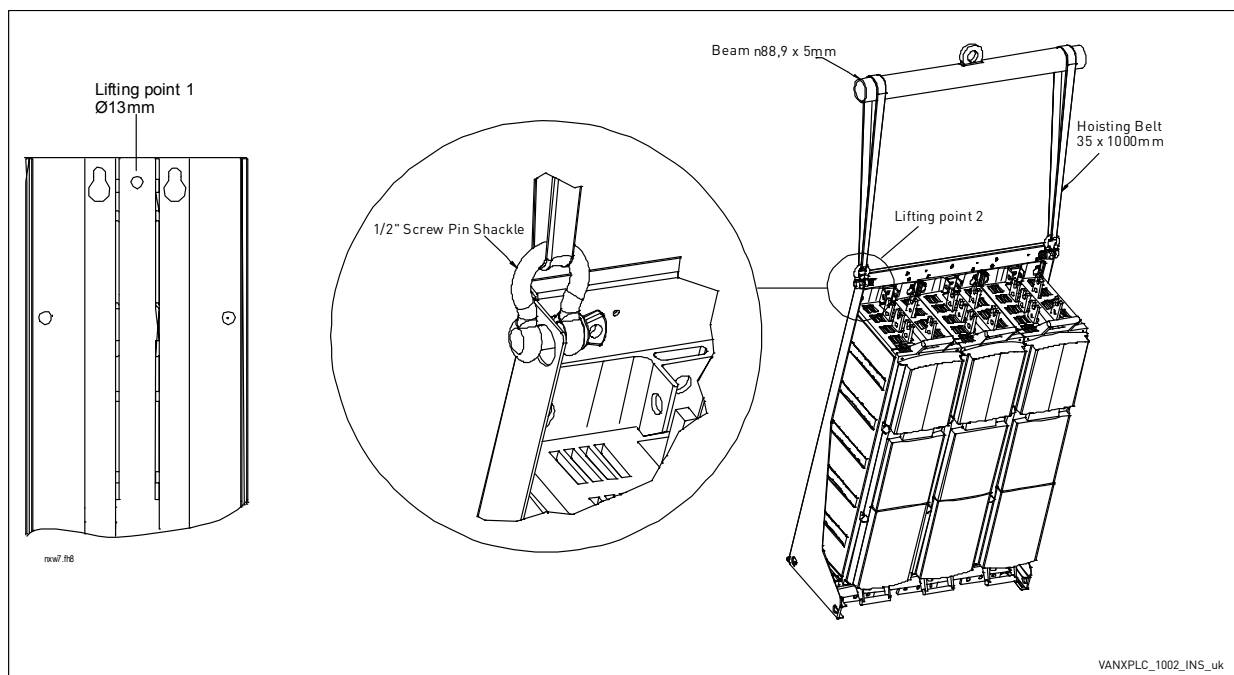
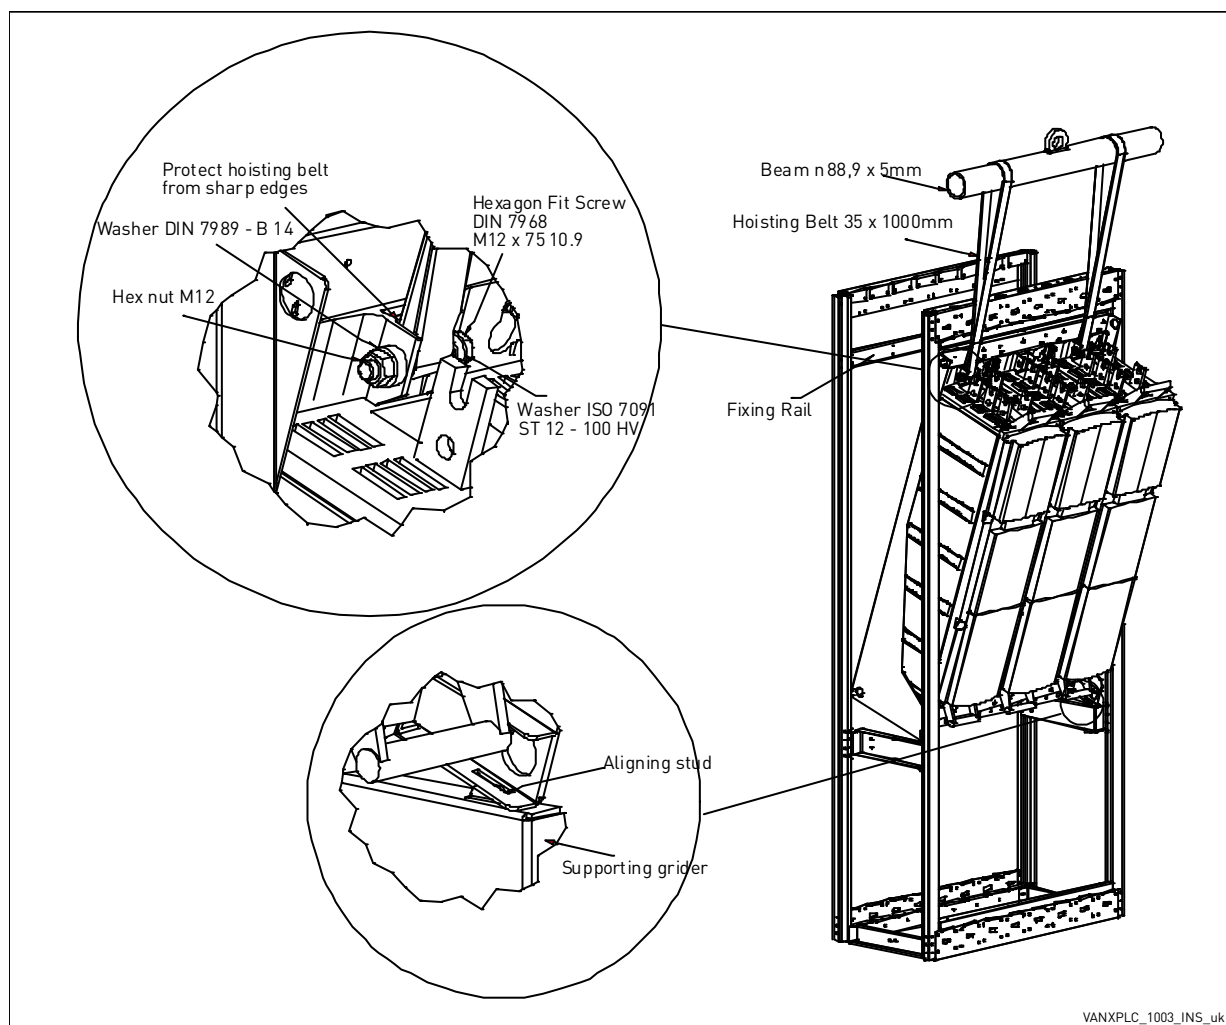
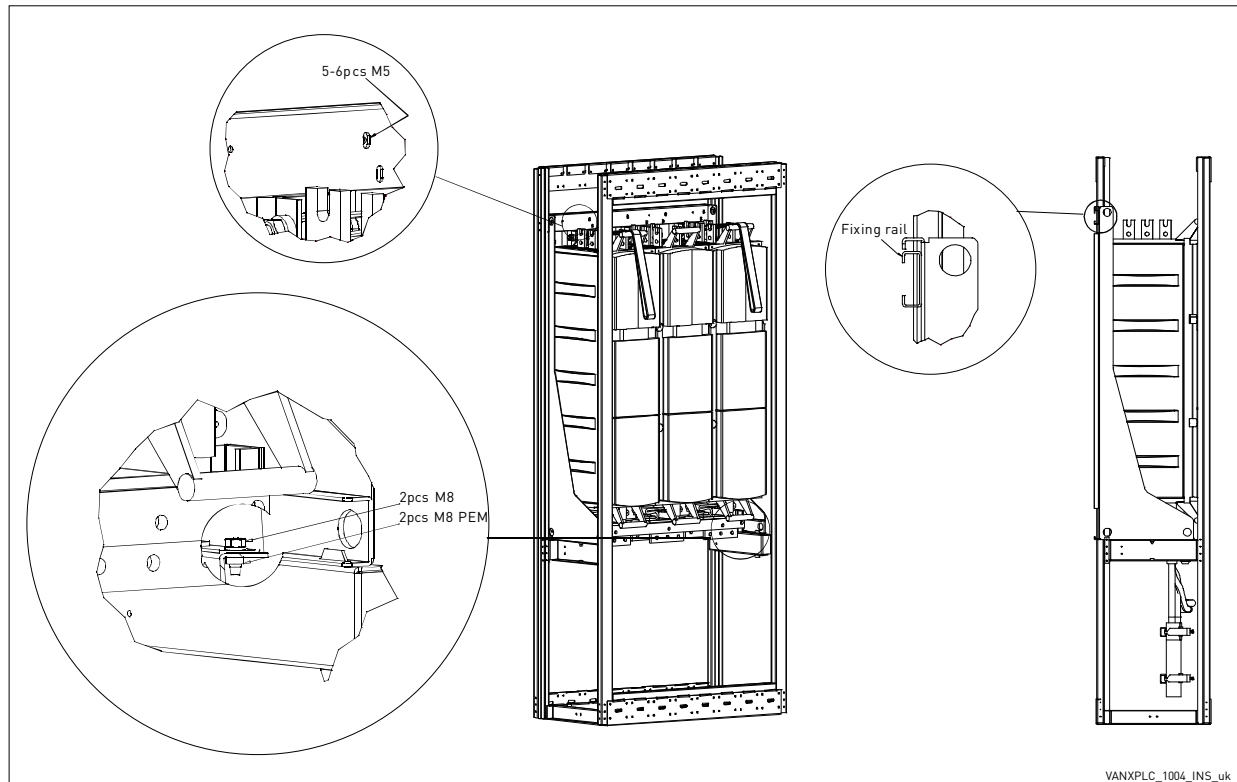

Figure 3. Lifting points for drives consisting of one module (left) and several modules
Figure 4. Lifting of drive into a narrow mounting space
Figure 5. Securing the drive to the cabinet frame
For units with no mounting bracket (see Chapter 5.1.2.2), the best place for hoisting is the hole(s) in the middle of the mounting plate (Lifting point 1). Vacon NX Liquid-Cooled drives consisting of several modules can the most safely and easily be lifted by the holes in the mounting bracket (Lifting point 2) using a screw pin shackle. Pay also attention to the recommended dimensions of the hoisting belt and the beam. See Figure 3.
In such case, follow the lifting procedure described in Figure 4. The mounting becomes easier and safer if the drive can be laid on a *supporting girder* fixed on the cabinet frame. We also recommend to use an *aligning stud* to guarantee an easy and safe mounting.
To additionally stabilize the cabinet with the drive, we recommend to mount a fixing rail on the back of the cabinet, to which the top of the drive can be fastened with 5 or 6 M5 screws. The cut-out is compatible with Rittal or Veda cabinets. Also secure the drive with M8 nuts and studs to the supporting girder. See Figure 4 and Figure 5.
The NX liquid cooled drives are equipped with plastic handles and these handles can be used to lift drives consisting of one power module (CH61, CH62, & CH72). Recommended lifting point is mounting plate shown in Figure 3.
**NOTE!** A drive that includes two or three modules (CH63, CH64, & CH74) shall not and is never allowed to be lifted from one plastic handle. Recommended lifting procedure for these units are as described in Figure 3 and Figure 4.